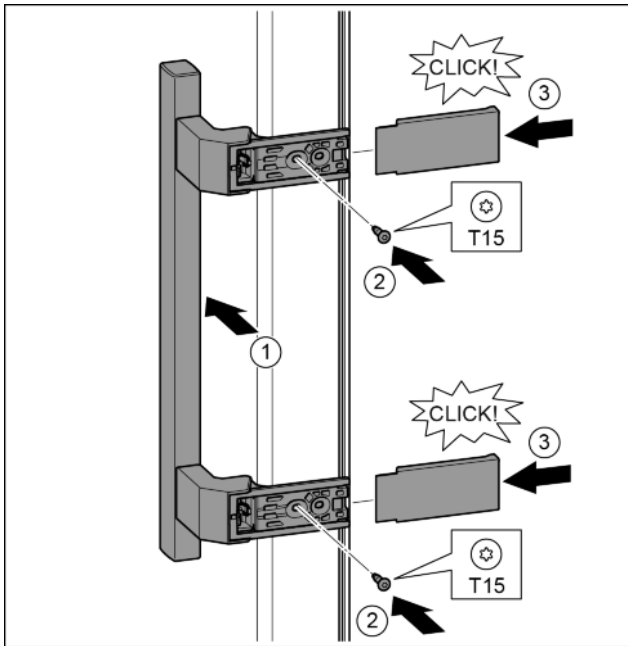

Fig. 33
- ▶ Position the handle on the other side. Fig. 33 (1)
- ▶ Tighten the screws with the T15 screwdriver. Fig. 33 (2)
- ▶ Position the covers on the side and push in. Fig. 33 (3)